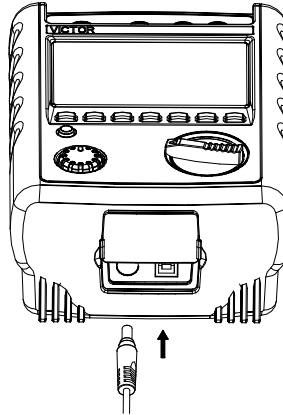

Figure 10
10. Special-purpose power source adapter use method (As shown in Figure 10)